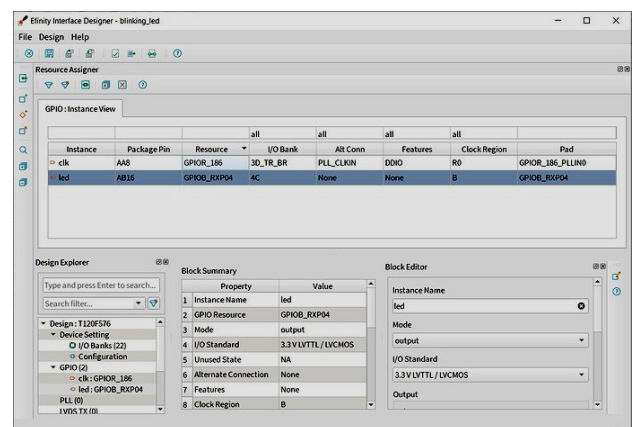

Fig. 8. Pin assignments
2. Verify that the Trion T20 development board is recognized as a USB target; refresh the page as needed. To assign an FPGA pin to a port, click in the Resource column of the GPIO Instance View that corresponds to the port and type the name of the FPGA pin. The Trion T120F576 Development Kit has a 50 MHz oscillator on pin GPIO\_R186. Assign this to the *clk* instance. Assign pin GPIOB\_RXP04 (LED0 on the kit) to the *led* instance (Fig. 8) [5].